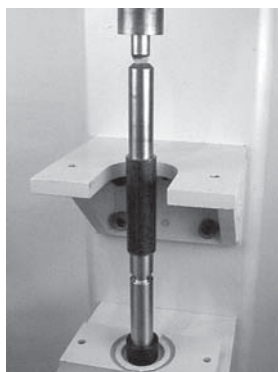

Figure 40
4. Using an arbor press or similar device, press bearing onto pulley shaft (**Figure 40**).